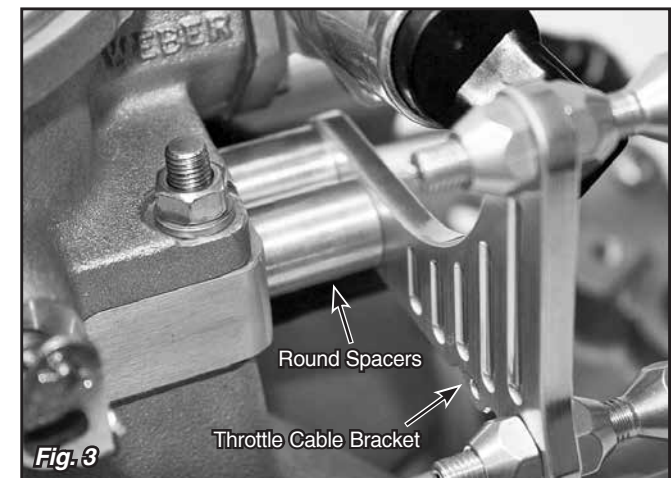

Fig. 3
Step 3: Install the throttle cable bracket onto the spacer plate using the two round spacers and the 1/4"-20 x 1-3/4" flat head bolts. **Fig. 3**